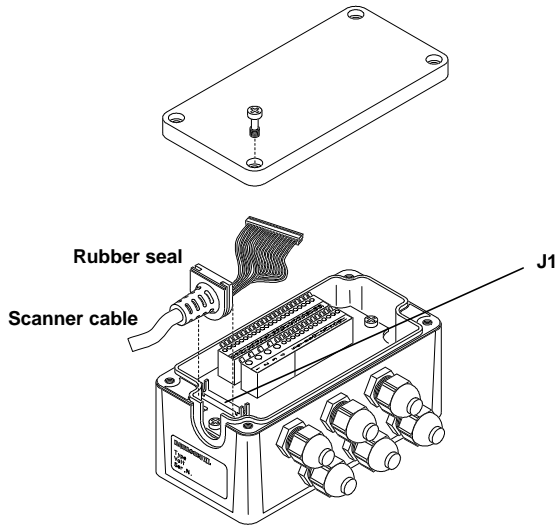

Figure 2.11 - Scanner cable connections to the junction box
- 4) After wiring the junction box and while the scanner is unplugged from the power supply, place the Scanner cable so that the rubber seal fits into the cutout in the housing of the junction box and plug the 24-pin connector into connector J1 on the PCB inside the junction box as shown in figure 2.11.